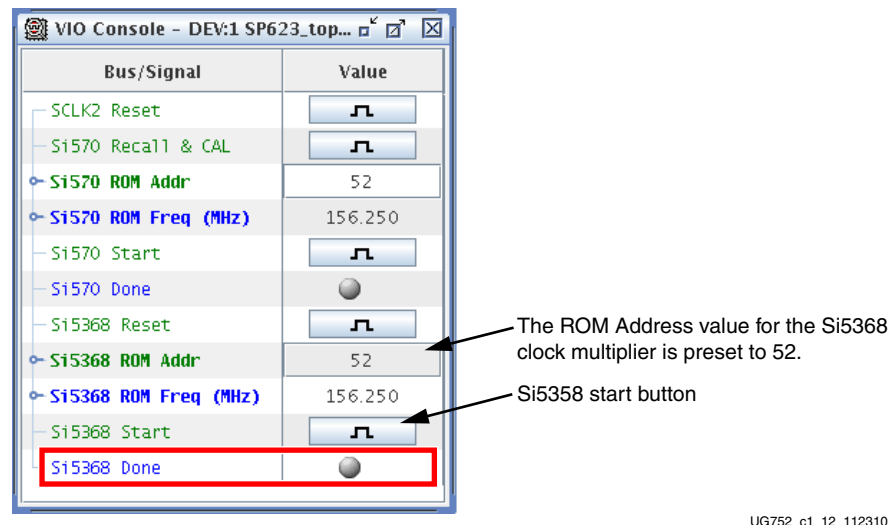

Figure 1-11: VIO Console, Si5368 Initialization
- a. If using the Si5368 device to source the GTP transceiver clocks (e.g. as described in Table 1-1, page 9), initialize the Si5368 device. Click the **Si5368 Start** button (Figure 1-11). A transition arrow flashes ON/OFF to the right of **Si5368 Done** when the command is complete.